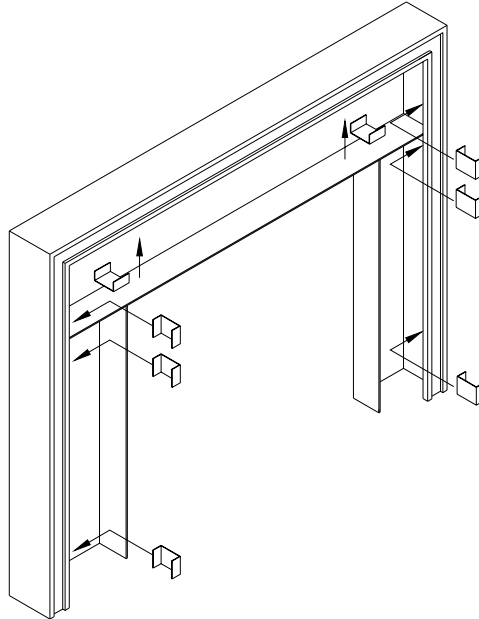

Figure 6
7. **BRASS INSTALLATION ON FACEPLATE:** Attach the mitred corners of the brass trim together using the corner brackets. Slide the assembled brass trim over the edge of the faceplate. See Figures 6 and 7.
Attach the left and right side brass to the top with corner brackets supplied. Slip the brass trim over the faceplate and snap the eight faceplate trim clips in place (see Figure 6).